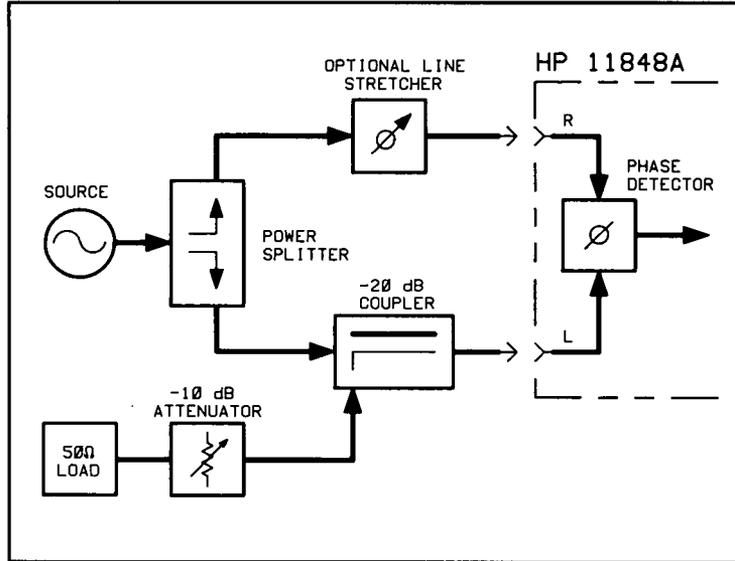

Figure 4-15. Calibration Setup
1. Connect circuit as per Figure 4-15, and tighten all connections.